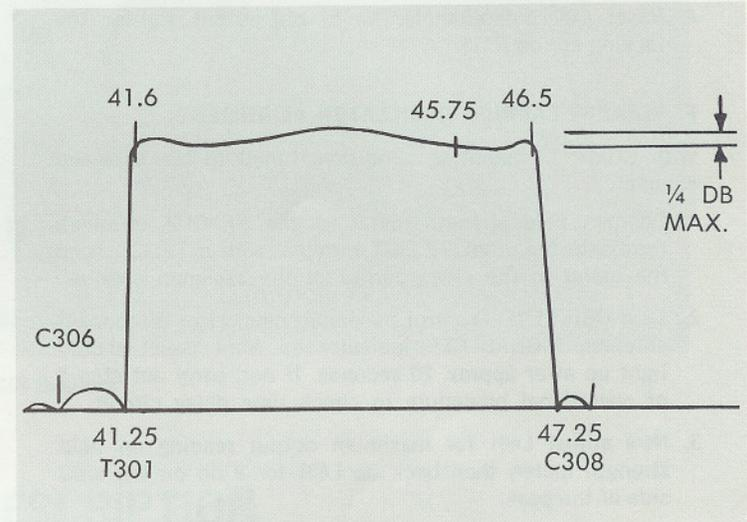

Fig. 7—Response Curve (T301 and 302 and L307 adjustment)
14. Adjust T301, T302 and L307 for response shown in fig. 7. Continuously monitor the trap frequencies while aligning this interstage. It may be necessary to touch-up the other stages to achieve an overall flatness of  $\pm 1/4$  db. DO NOT adjust L301, L302 and L303 in the input stage, nor L317, L318 and L320 in the output stage!